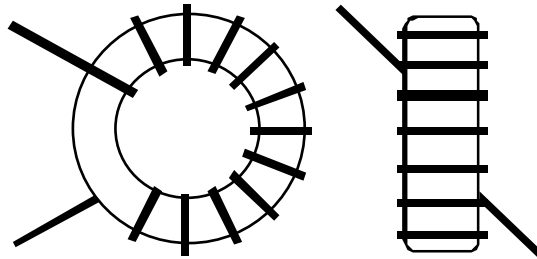

Figure 3
- Wind 12 turns of #26 red enamel wire (7", 18 cm) on the FT23-43 toroid core (L5) as shown in Figure 3. Avoid scraping the wire against the core as you wind. The turns should occupy 80-90% of the core.